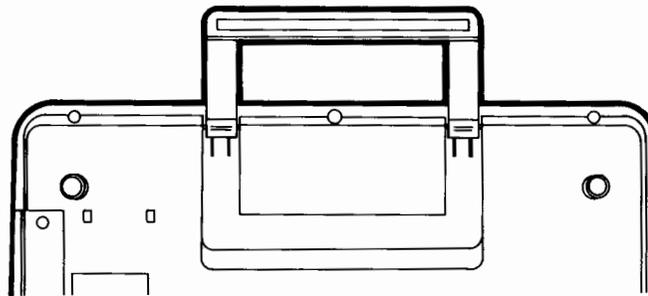

Figure 1-8. Built-In Handle
5. Pull out on the handle, as shown in Figure 1-8.